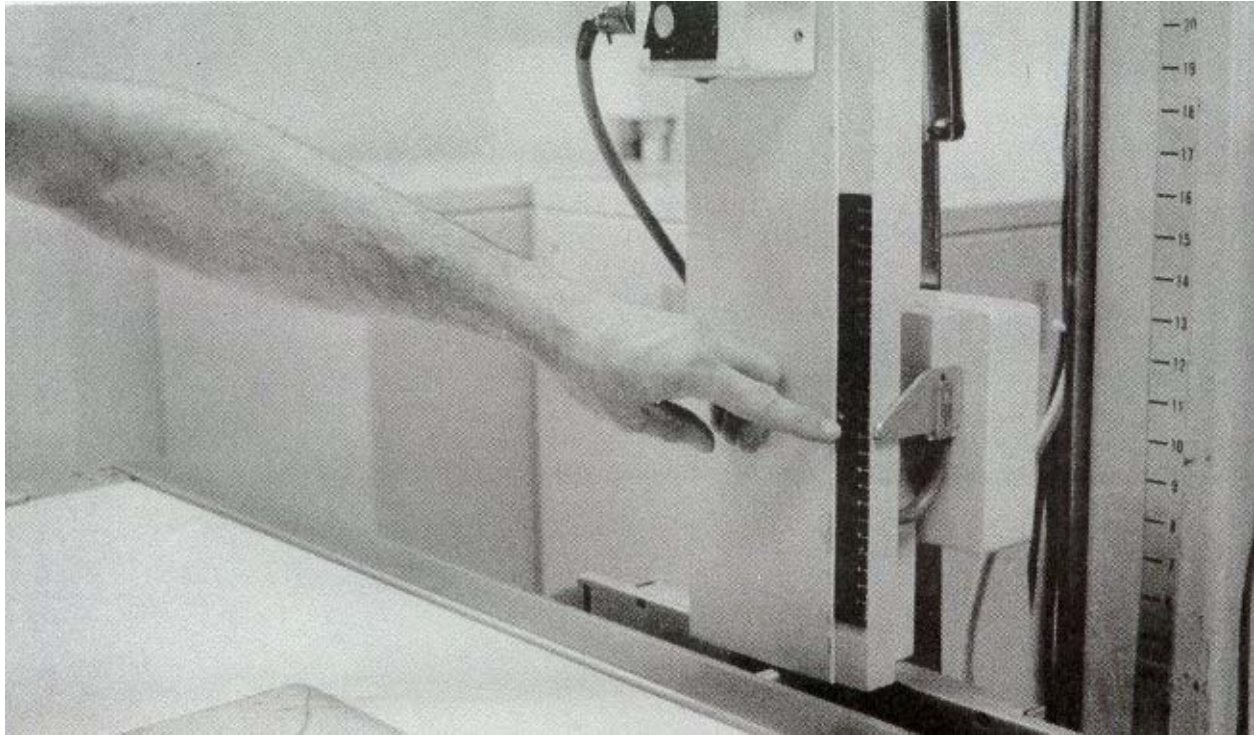

Figure 6-13. Cut level indicator set at 12 cm.
- (1) Tomographic motion.
- (2) Sweep speed.
- (3) Exposure angle.
- g. Set the cut level indicator at 12 cm (see figure 6-13).